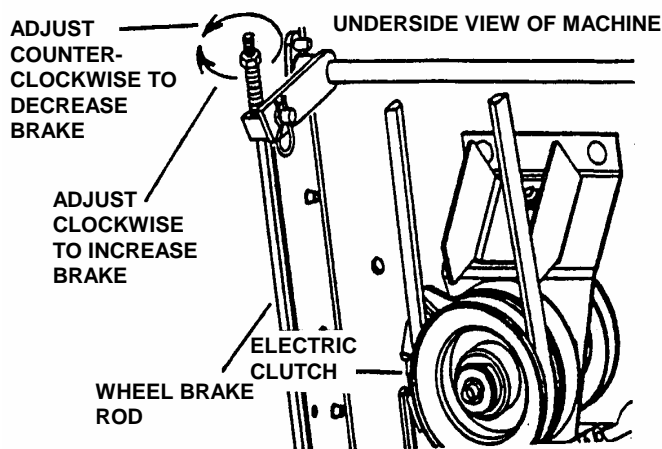

FIGURE 4.14
Adjust the wheel brake if wheels turn when parking brake is engaged. Adjust the wheel brake by turning wheel brake adjusting nut clockwise to increase braking action or counter clockwise to decrease braking action. See Figure 4.14.
6. Inspect condition of blade. See Figure 4.14.